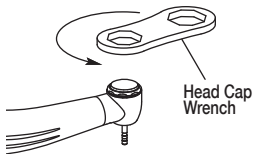

Fig. 30
- 2) Fit the head cap wrench onto the head and remove the head cap. (Fig. 30)